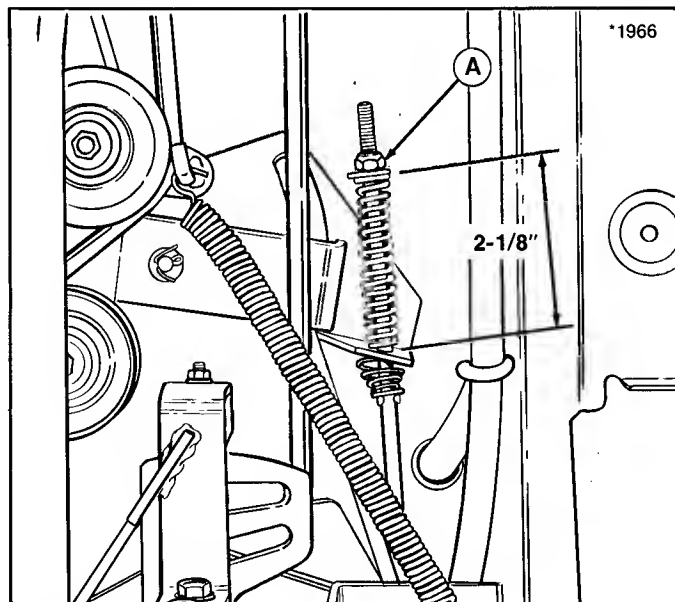

Figure 32.
2. Spring should be compressed to 2-1/8" long. Turn adjustment nut (A, figure 32) as necessary for correct spring length.